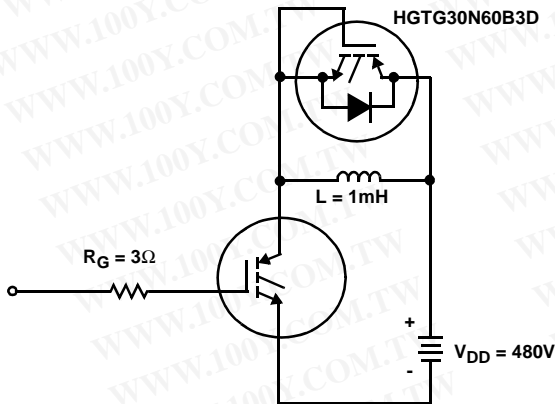

FIGURE 17. INDUCTIVE SWITCHING TEST CIRCUIT
- Values for two Turn-On loss conditions are shown for the convenience of the circuit designer.  $E_{ON1}$  is the turn-on loss of the IGBT only.  $E_{ON2}$  is the turn-on loss when a typical diode is used in the test circuit and the diode is at the same  $T_J$  as the IGBT. The diode type is specified in Figure 17.